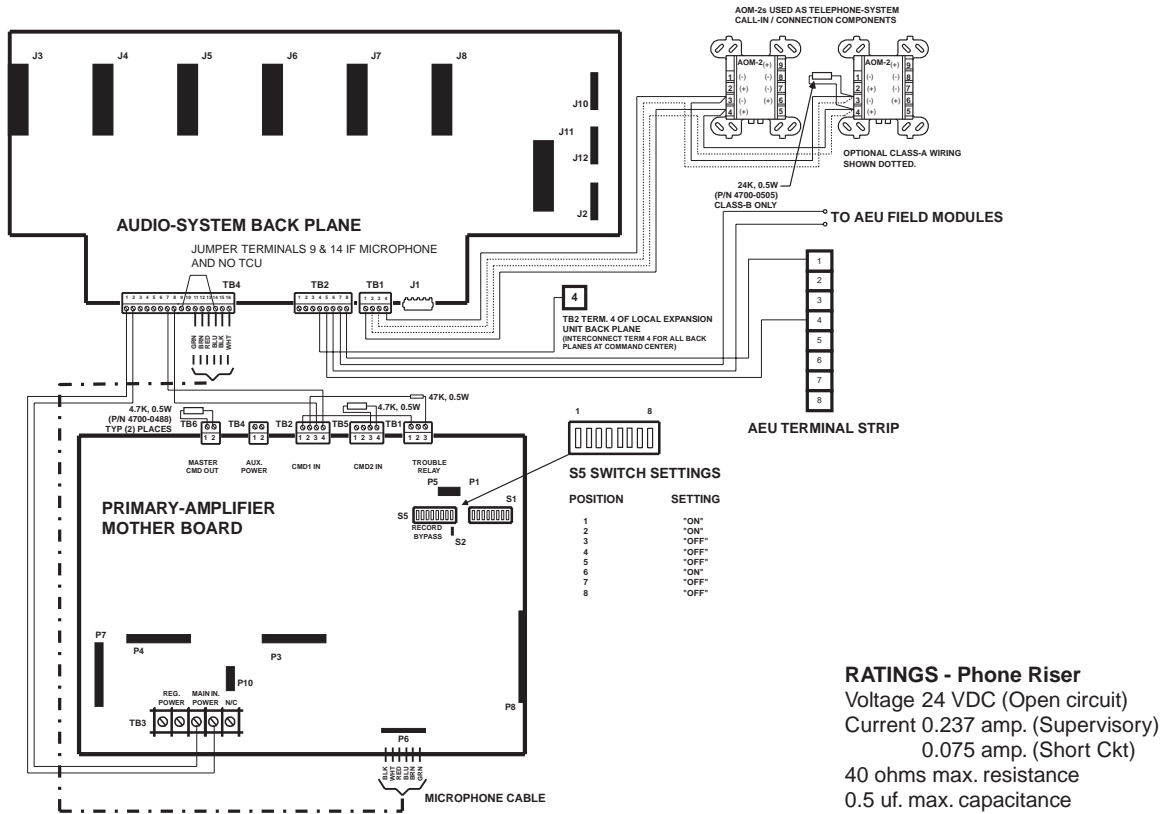
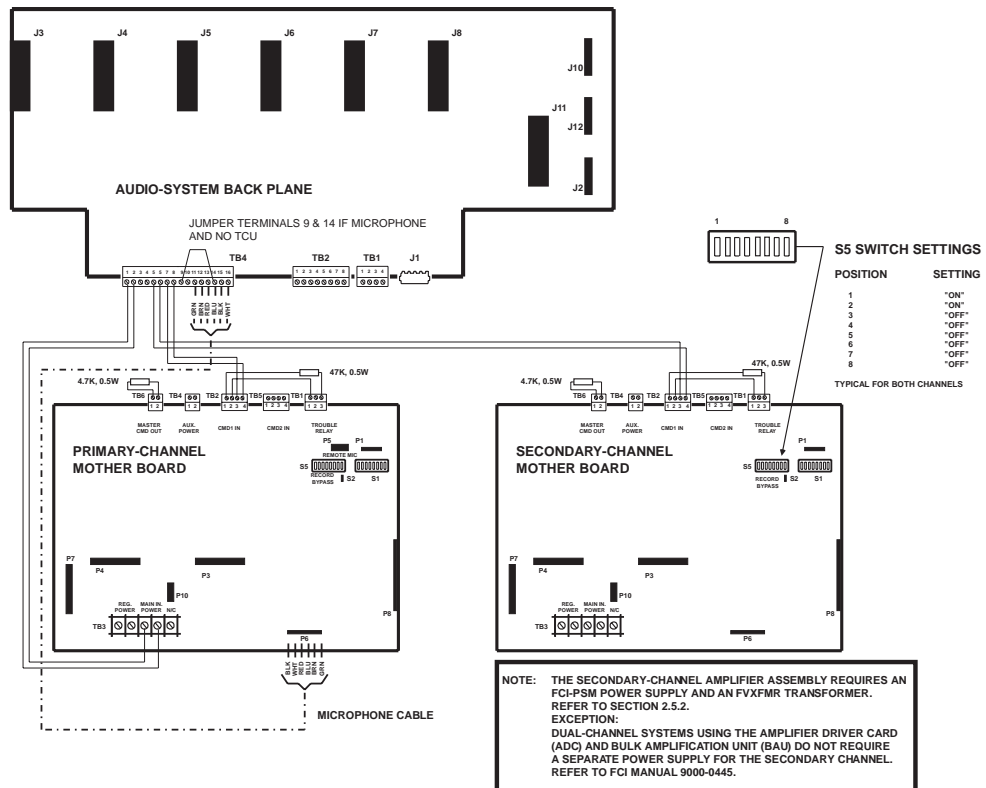

Figure 2-4
Figure 2-7
- Figure 2-4 shows the typical connections between the system backplane, the AEU SLC, primary amplifier motherboard, and the remote telephone interface modules (AOM-2) for a single-channel system without auxiliary tone.
- Figure 2-7 shows the typical connections between the system backplane, the AEU SLC, primary amplifier motherboard, and the addressable, remote telephone interface modules (AOM-2) for a dual-channel system without auxiliary tone. AEU SLC connections are identical to those shown in Figures 2-4 through 2-6.
<p>*See Figure 2-4 for Single Channel operation without Aux. tone.            *See Figure 2-5 for Single Channel operation with Aux. tone.            *See Figure 2-7 for Dual Channel operation.            *See Figure 2-20 for Distributed Amplifier operation.</p>